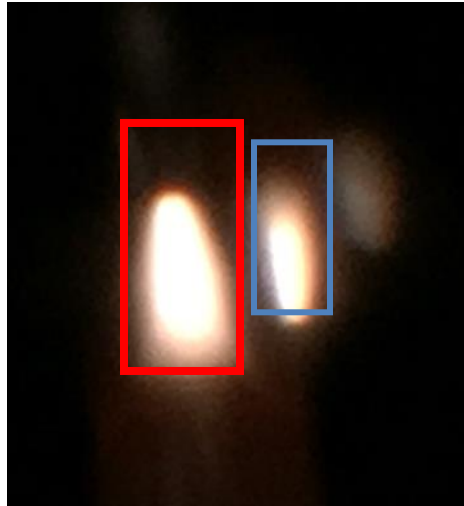

Figure 44: Xe arc lamp primary image (red) and secondary reflected image (blue).
7. Move the lever so that it rotates about the cylindrical condenser lens assembly until the arc between the anode and cathode becomes visible. This is usually achieved when the adjustment lever is as farthest from the lamp housing as possible. A smaller, secondary image may also be visible on the backdrop. This is the reflection of the arc from the rear reflector inside the housing as seen in Figure 44.
11. A reflector is located behind the lamp inside the lamp housing. The position of the reflector is adjusted using the knobs located on the side of the lamp housing, as shown in Figure 39. The lamp's reflected image is referred to as the "secondary image". Figure 44 shows the lamp arc's primary image in the